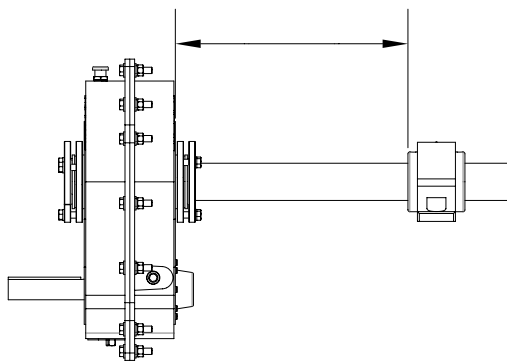

Figure 1 - Distance to Measure for Cut
1. Before installing split-bushing covers and extension, measure the distance between the face of the gearbox and the connecting equipment, as shown in Figure 1.